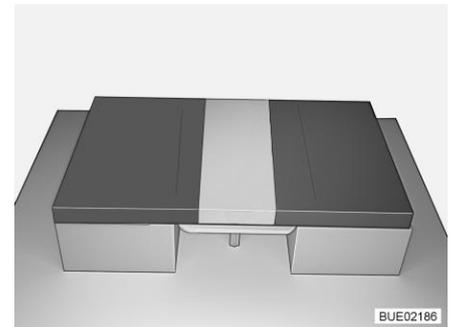

Fig. 106 After conversion
- Insert a back cushion between the seat cushions on the table (see Fig. 106).